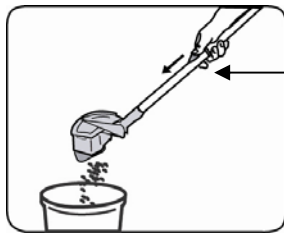

Fig. 11
2. Lift out the dust container, which is connected to the handle. Hold over a trash bin and push down on the no touch empty button located on the handle. (Fig. 11)